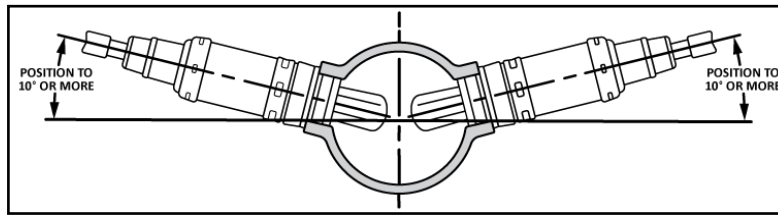

FIGURE 5
- It is **CRITICAL** that the oxygen sensor is NOT installed in the bottom of the exhaust tube. This will help prevent condensation in the exhaust tubing from entering the sensor. **Figure 5**